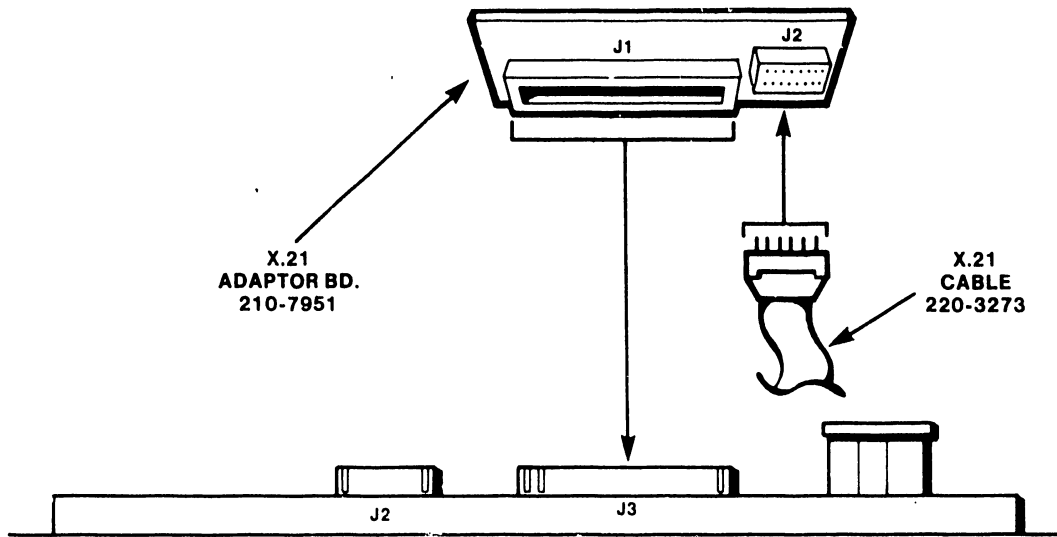

Figure 4-35 X.21 Interface Adaptor Board Installation
6. Carefully insert the X.21 cable connector into J2 of the X.21 Adapter Board (P/N 210-7951) as shown in Figure 4-35. Ensure pin alignment.
7. Connect the X.21 adapter board to the RS-449/X.21 connector (J3) of the TC controller as shown in Figure 4-35.